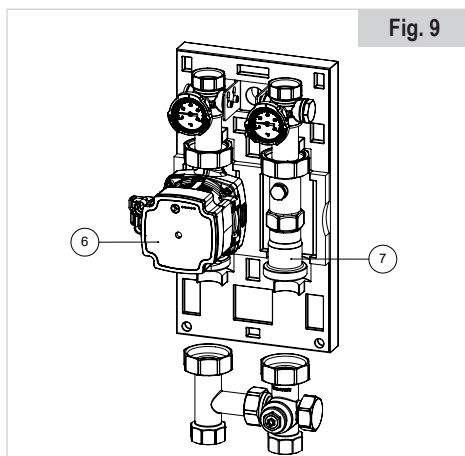

Fig. 9
- Invert the position of the circulator (6) and the connection pipe (7) paying attention to the flow direction indicated by the arrow placed on the body of the circulator and to the direction of the check valve inside the connection pipe (see **Fig. 9**).